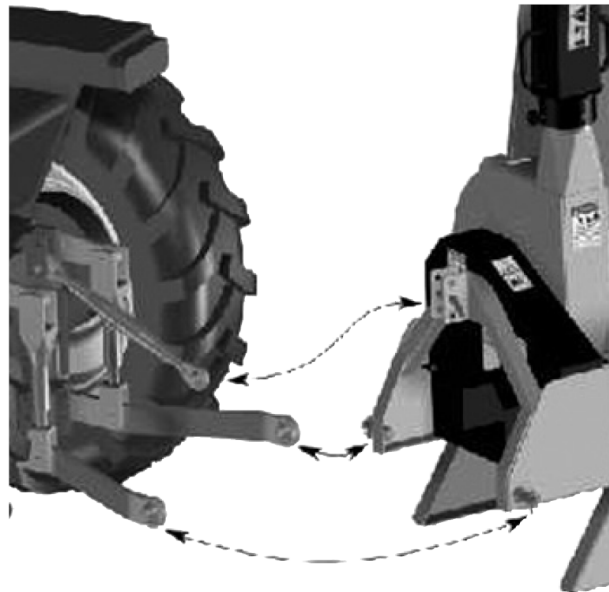

Figure 6.2: Illustrative image of the tractor's 3-point hitch
It is necessary to connect the three-point hitch of the hydraulic system, as shown Figure 6.2 on page 129, followed by the placement of the respective cardan shaft (5).